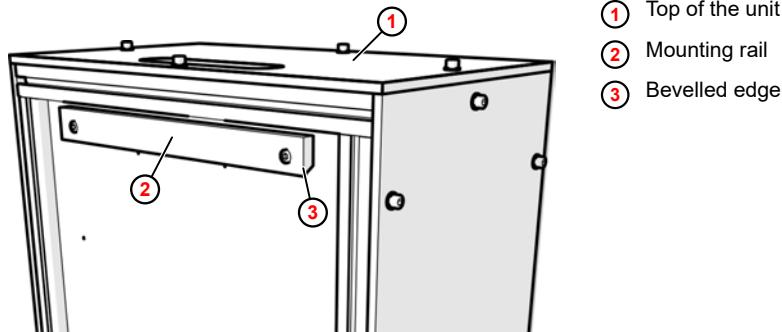
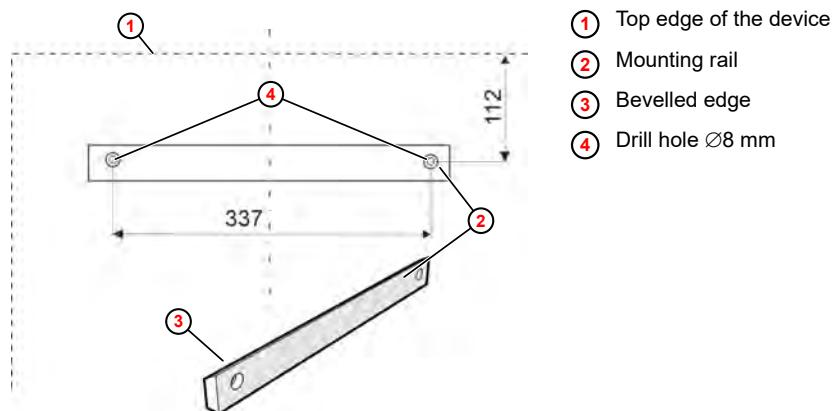

Fig. 6: Mounting rail mounted on the unit
Fig. 7: Mounting the wall mounting
2. Mark the drill holes on the wall as shown in Fig. 7 and drill Ø8 mm holes.
3. Screw the mounting rail ② onto the wall with the bevelled edge ③ facing upwards.
4. With the help of an assistant, place the unit on the mounting rail on the wall ② using the rear mounting bar (Fig. 6, ②) and align it.